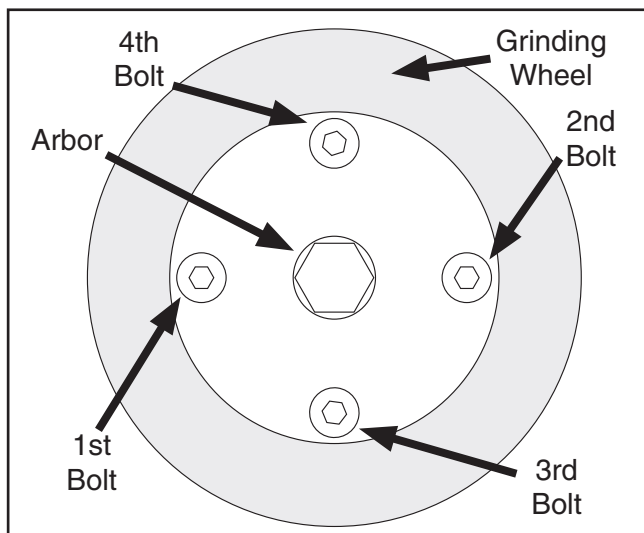

Figure 5. Wheel bolt mounting order.
4. Tightly fasten the wheel to the connector plate using the four hex bolts. In order to properly balance the wheel, tighten the bolts in the order shown in **Figure 5**.